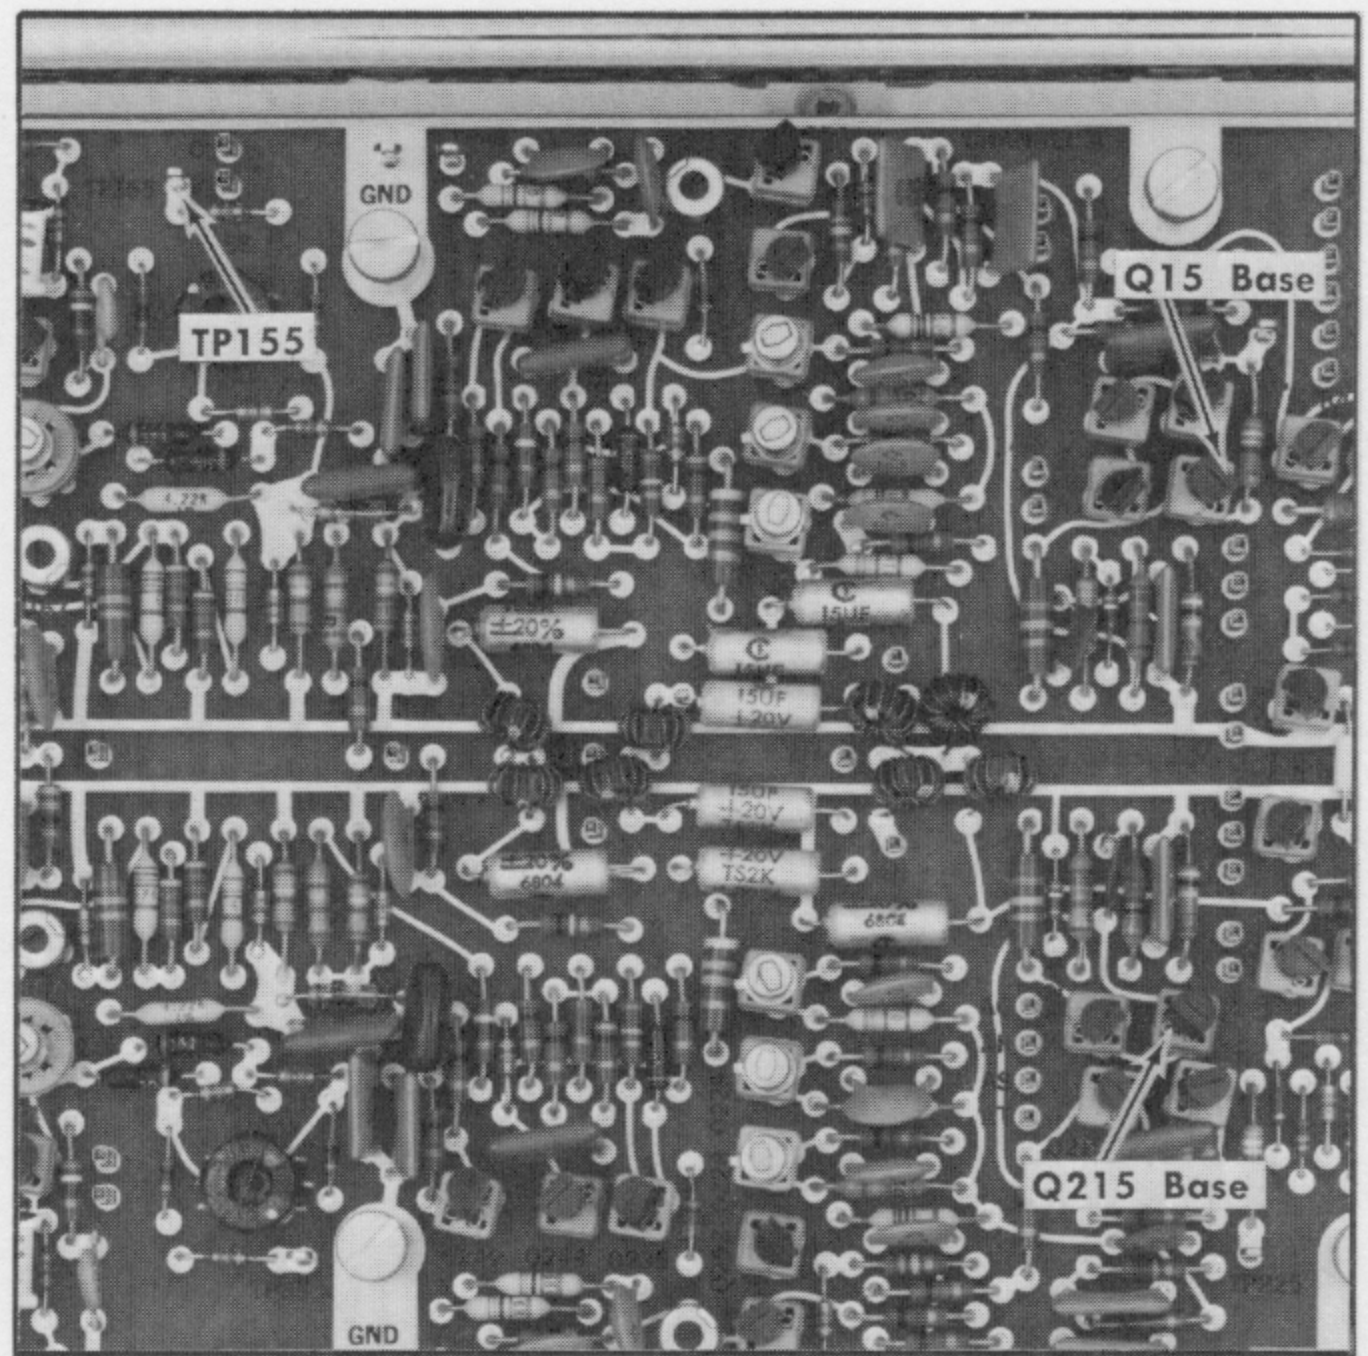

Fig. 7-7. Type 3S5 test points for adjustment of Memory Gate Width controls.
d. Refer to Fig. 7-7 for the Type 355 test points located on the instrument left side. Controls are shown in Fig. 7-4A. Connect the test oscilloscope external trigger 1X probe tip to TP155. Connect the vertical 10X probe tip to Q15 base at R13.